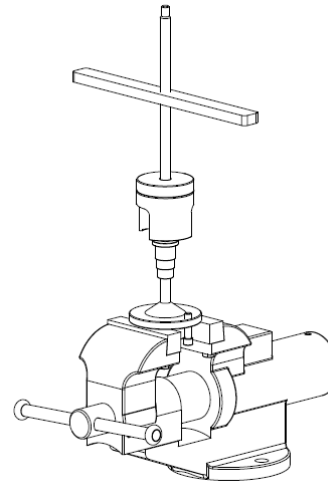

Figure 18
Use the disassembly tool (see figure 18, next page) to disassemble the cam ⑦. The pulley is spring loaded with significant amount of force, the use of the disassembly tool will keep the pulley compressed.
- Using a vise, mount the disassembly tool as shown in figure 18.